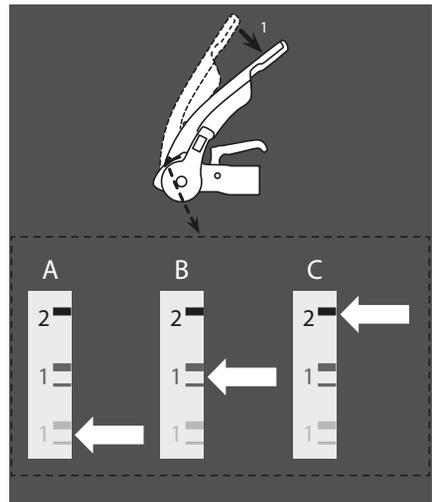

Figure 13 - Checking left / right friction pads
2. Push the stabiliser lever (Fig 13 - Item 1) down until resistance is felt (i.e. The friction pads are in contact with the ball but not yet under pressure).
3. Check the position of the arrowhead on the arm of the stabiliser. If it lines up with the two green lines then the friction pads are still as new (Fig 13 - A).
4. If the arrowhead lines up with the two red lines then the friction pads are worn and should be replaced immediately (Fig 13 - B).
Note: When the stabiliser lever is correctly applied, the arrowhead should line up with the black line marked 2 (Fig 13 - C).